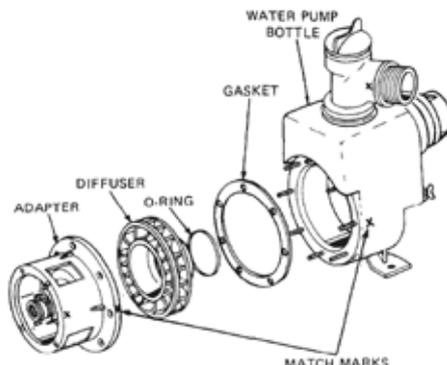

Figure 30 Adapter Removal
- i.** Match mark the adapter to the bottle (water pump housing) (Figure 30).